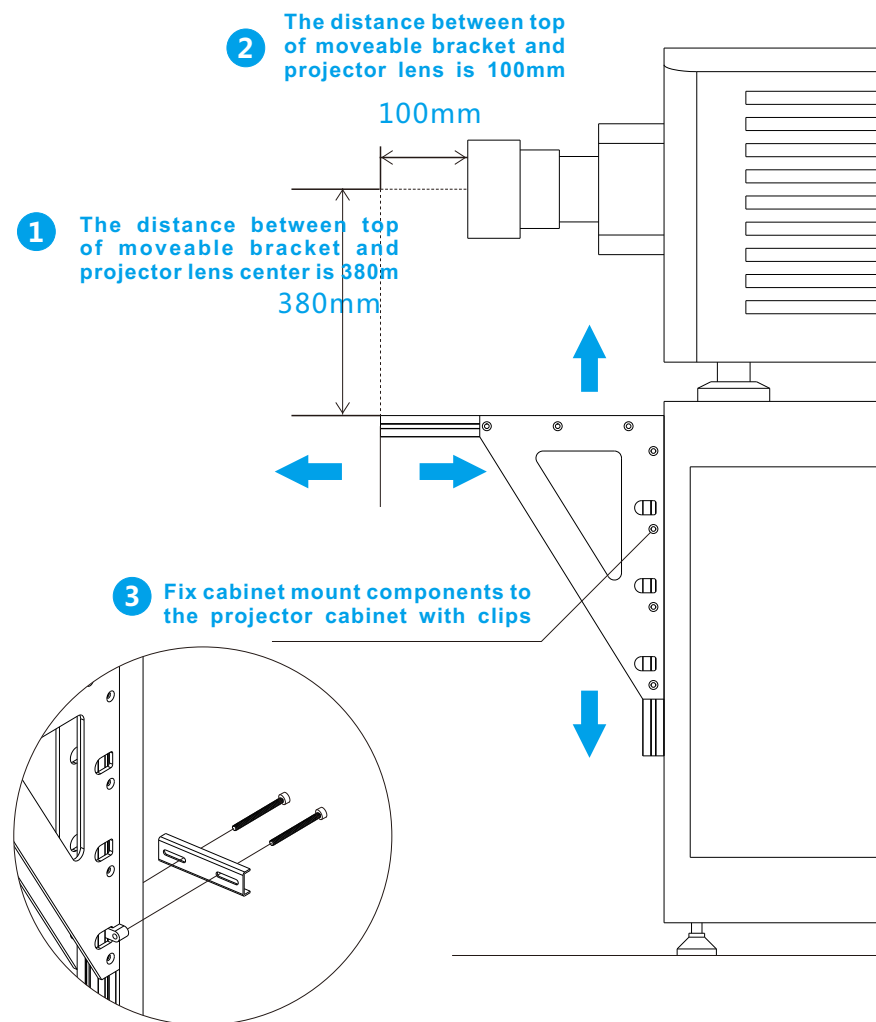

Figure 6-1 Install Cabinet Mount Components
6.1 Install cabinet mount components: adjust height and length of cabinet mount components, and fix the components to the projector cabinet with fastener, as shown in **Figure 6-1**.